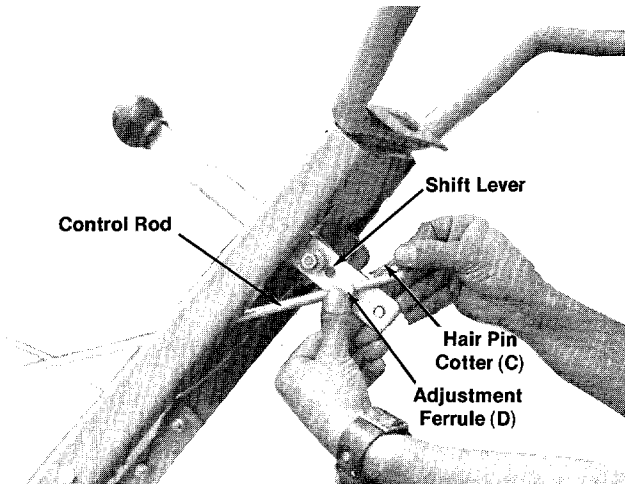

FIGURE 12.
- Thread adjustment ferrule (D) on end of control rod. See figure 12.
- Place shift lever in 1st speed position and thread ferrule up or down control rod so that ferrule lines up with hole in shift lever. See figure 12. Secure ferrule with flat washer and hair pin cotter (C).